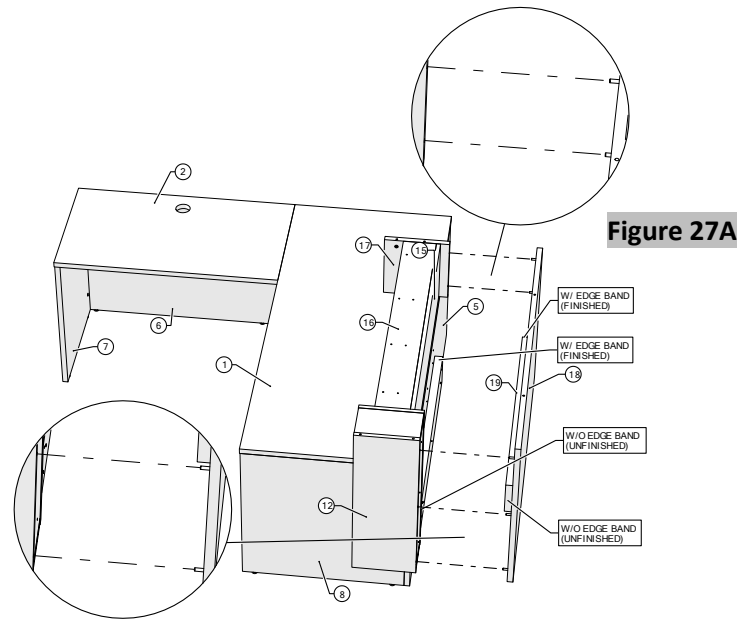

Figure 27
34. Connect the assembled unit (waterfall front and waterfall cleat) to the extended waterfall box and countertop gable, and press tightly together by inserting the wooden dowels into the 8 mm holes, (Figures 27 and 27A).